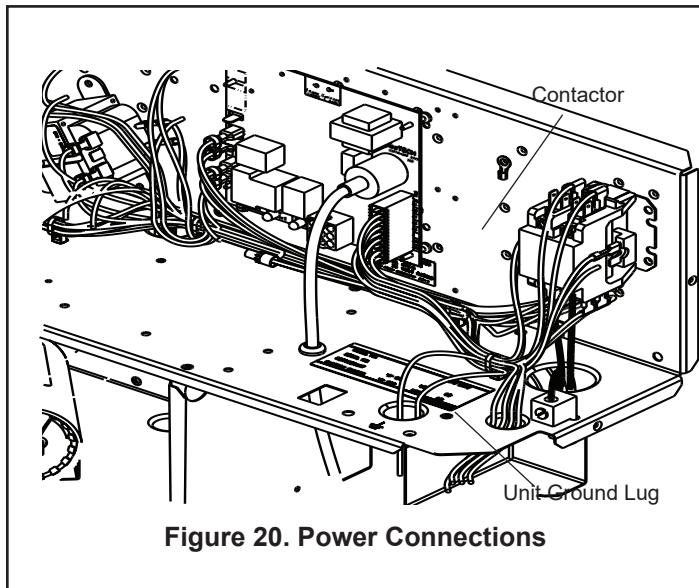

Figure 20. Power Connections
2. Connect the high voltage wires to the appropriate contactor lug terminals. Single phase units use a two (2) pole contactor and three phase units use two (2) pole contactor and a Blue lead wire. Connect the ground to the ground lug on the chassis. See Figure 20. Be sure all connections are tight.